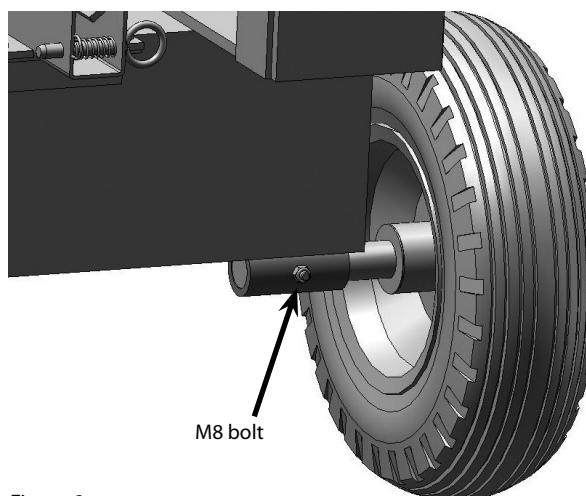

Figure 2
5. Install the wheel/spindle assembly into the wheel mounts on the tank using the two 55mm (approx. 2-1/4 inch) M8 bolts and corresponding nuts found in the main parts bag. Tighten securely with 13mm wrenches. **SEE FIGURE 2.**